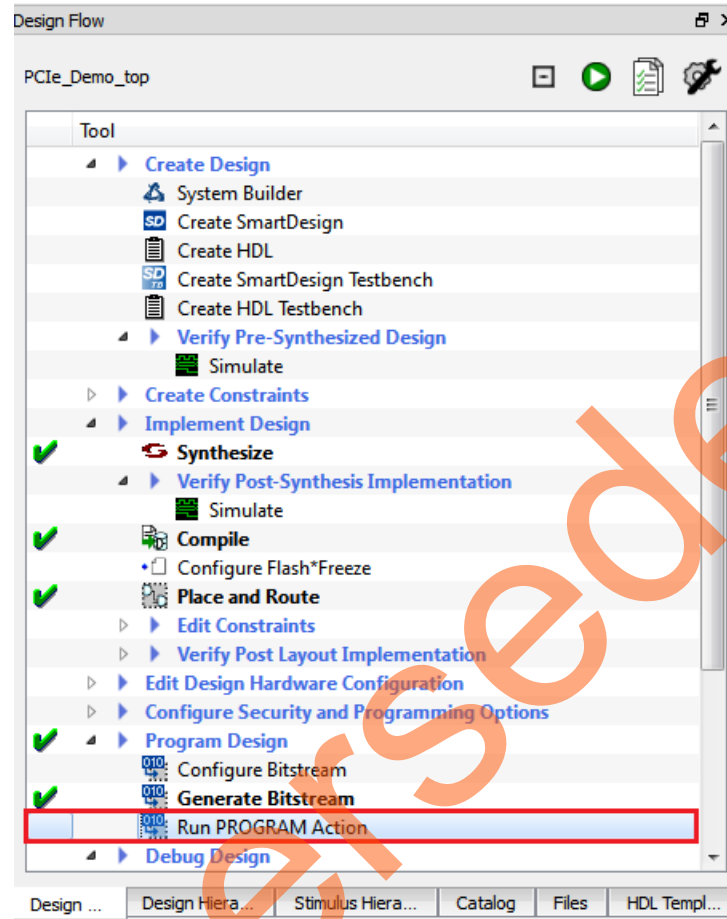

Figure 58 • Run PROGRAM Action
5. To program the SmartFusion2 device double-click **Run PROGRAM Action** in the **Design Flow** window as shown in Figure 58.